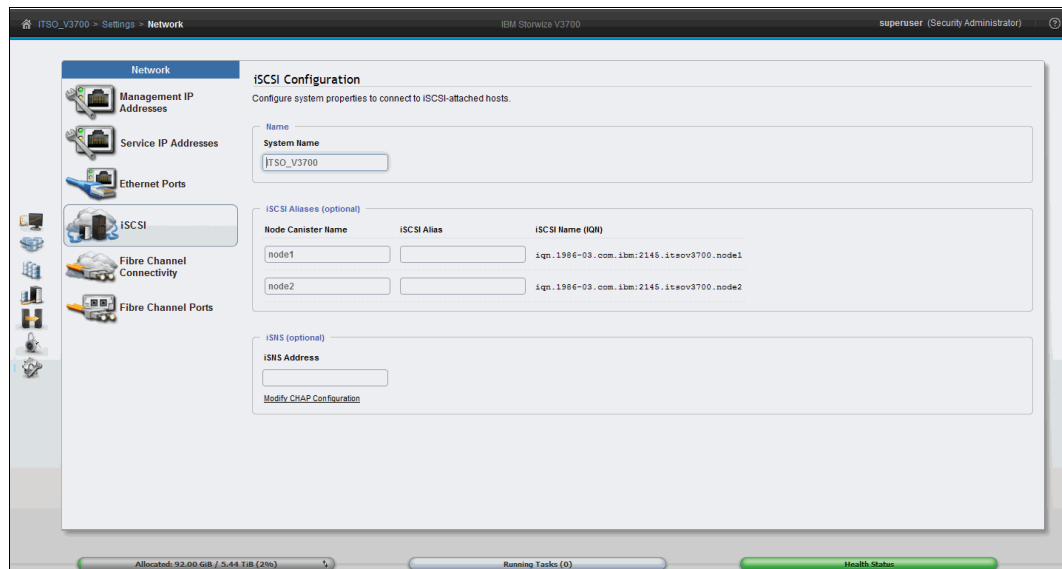

Figure 4-54 Advanced iSCSI configuration
12. It is also possible to configure iSCSI aliases, an iSNS name, and CHAP authentication. These options are in the iSCSI view. To access this, click **iSCSI** while in the network settings view, as shown in Figure 4-54.